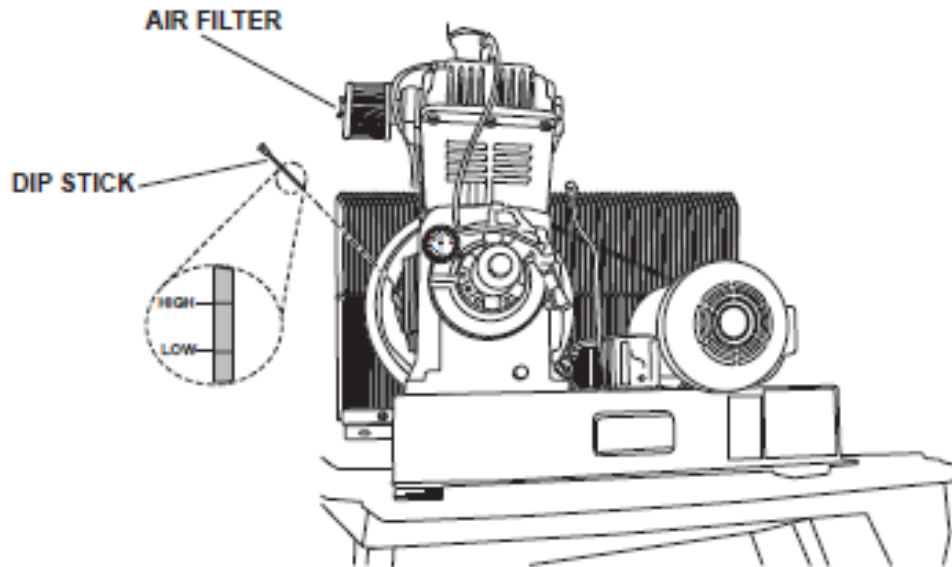

Figure 551-88L-2045_01
(1) Check that the oil level is between the HIGH and LOW marks on the dipstick, (refer to Figure 551-88L-2045_01).